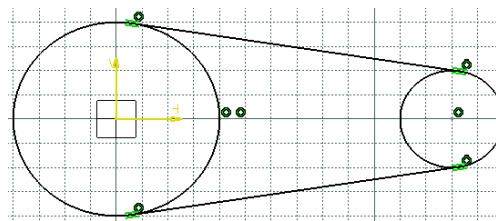

Figure 3-65 The sketch after drawing the second tangent line
10. Similarly, draw a tangent line on the lower side of the sketch by selecting the fourth quadrants of the first and second circles. Figure 3-65 shows the sketch after drawing the second tangent line.